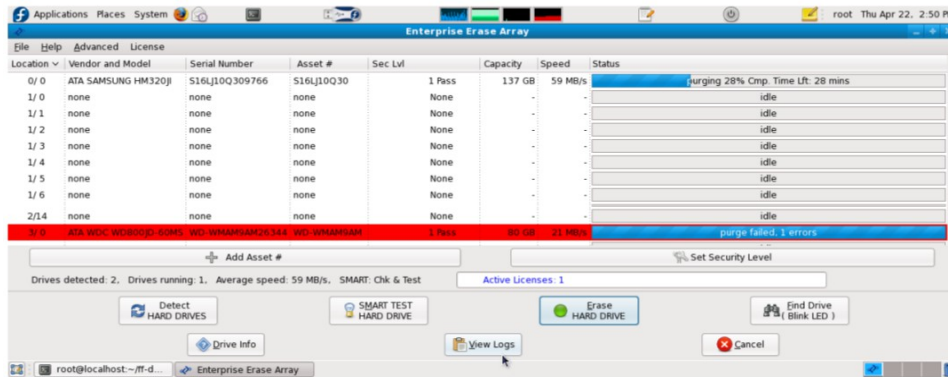

Figure 4.2 – Location of Cancel Button on the Main User Interface Screen
4.4 When a drive fails the erasure process, the drive is highlighted in the GUI with a red bar. This can be seen in Figure 4.2 below: